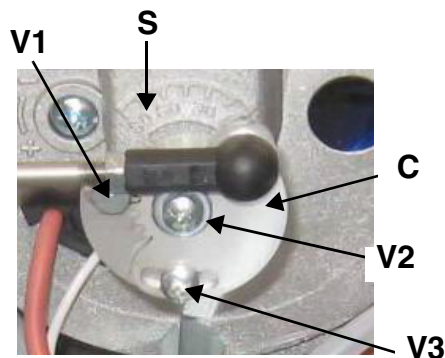

Fig. 19
- 16 To change, if needed, the gas flow rate, slacken the screw **V1** (Fig. 19) and set the opening angle of the butterfly valve rotating the round plate **C** by means of the screw **V3** (turn clockwise to decrease the gas rate or counterclockwise to increase it). The index **S** shows the opening angle.